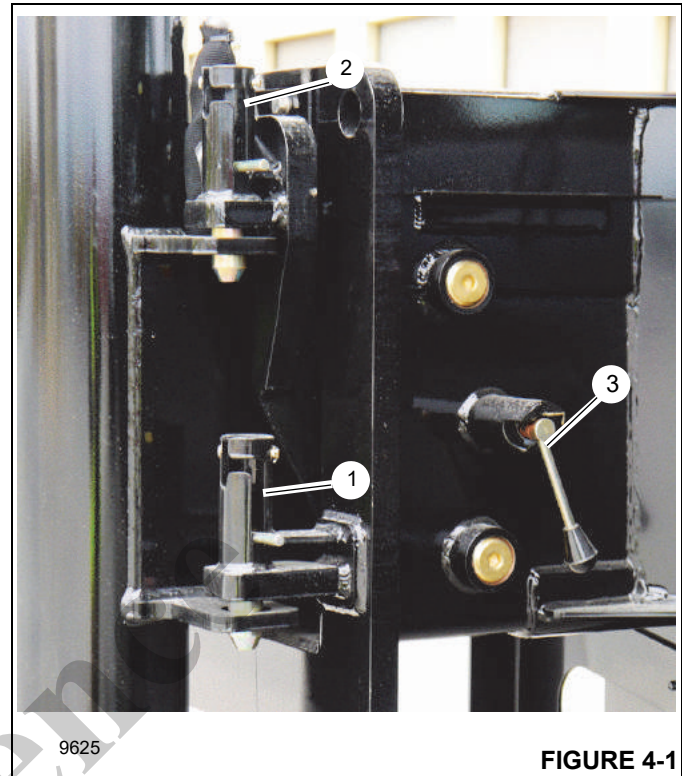

FIGURE 4-1
1. Disengage the mechanical travel lock (1, Figure 4-1) that secures each outrigger beam in the fully retracted position during travel.
- b. 50% extended position. Engage the manual over-center locks (2, Figure 4-1) for the midpoint position.
- c. (NTC60L only) 75% extended position. Engage the manual locks (3, Figure 4-1) by rotating the handle clockwise.